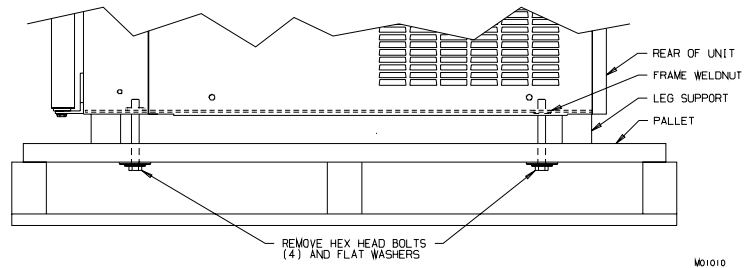
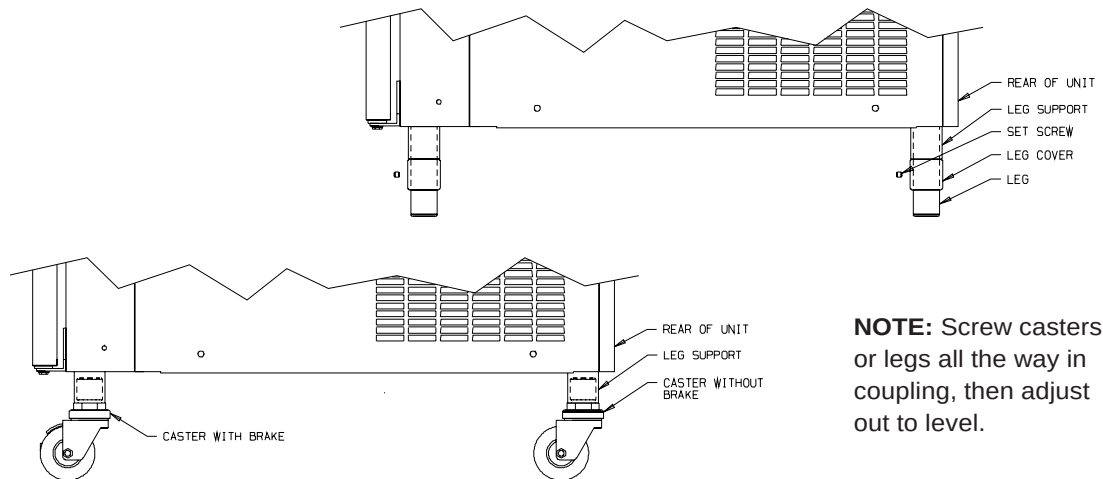

Figure 2-1 Machine Bolted to Shipping Base
Figure 2-2 Installing Mounting Legs or Casters
2. Remove the shipping bolts on the bottom of the freezer (figure 2-1) and install either the legs or casters (figure 2-2).